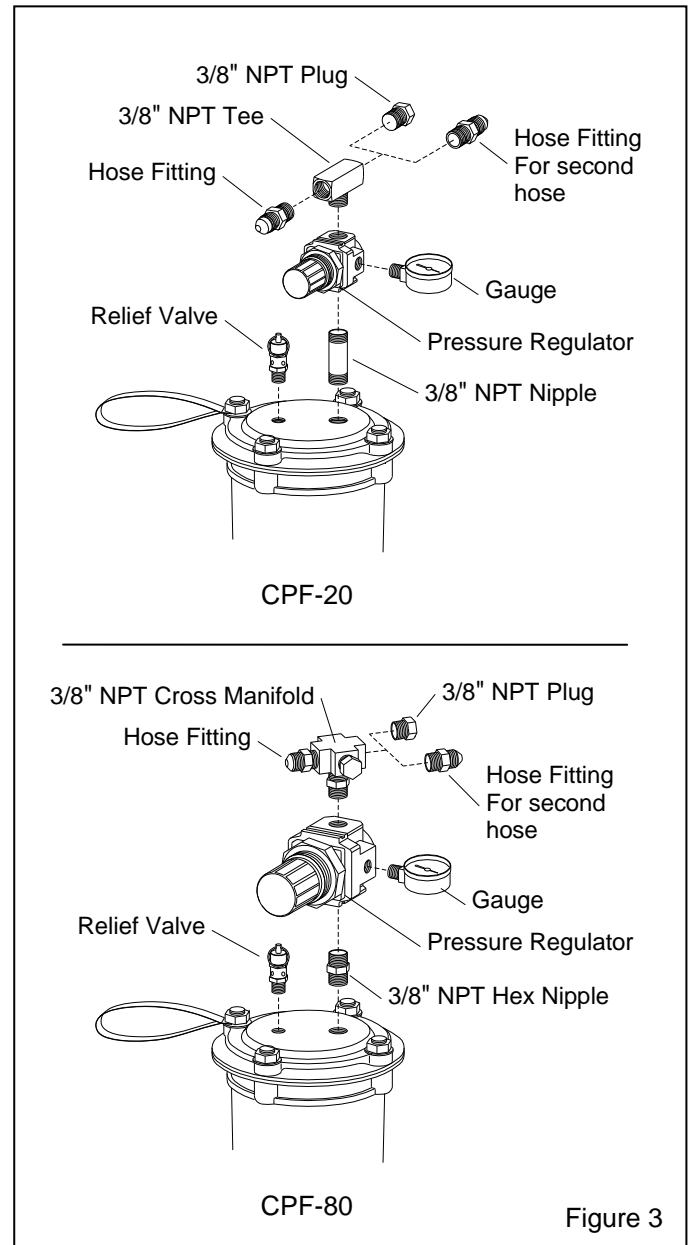

Figure 3
2.2 Regulator Assembly, Ref. Figure 3